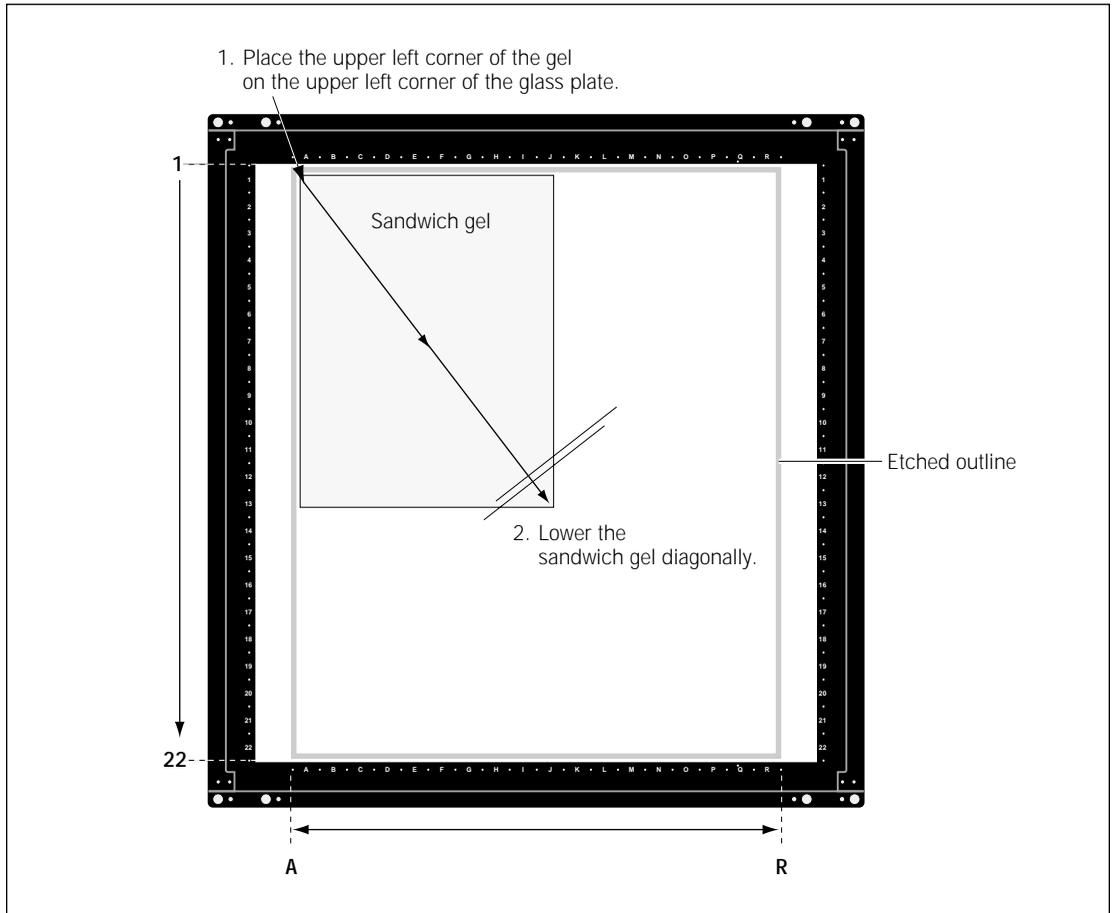

Figure 8-3. Aligning the sandwich gel on the glass plate.
3. Hold the sandwich gel by the edges and place the upper left corner of the gel on the upper left corner of the glass plate (figure 8-3).